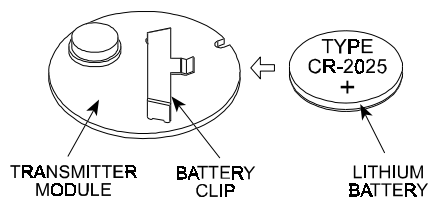

Figure 4. Battery Insertion
- B. Slide the old battery from under the clip in the opposite direction to the arrow shown in Figure 4.